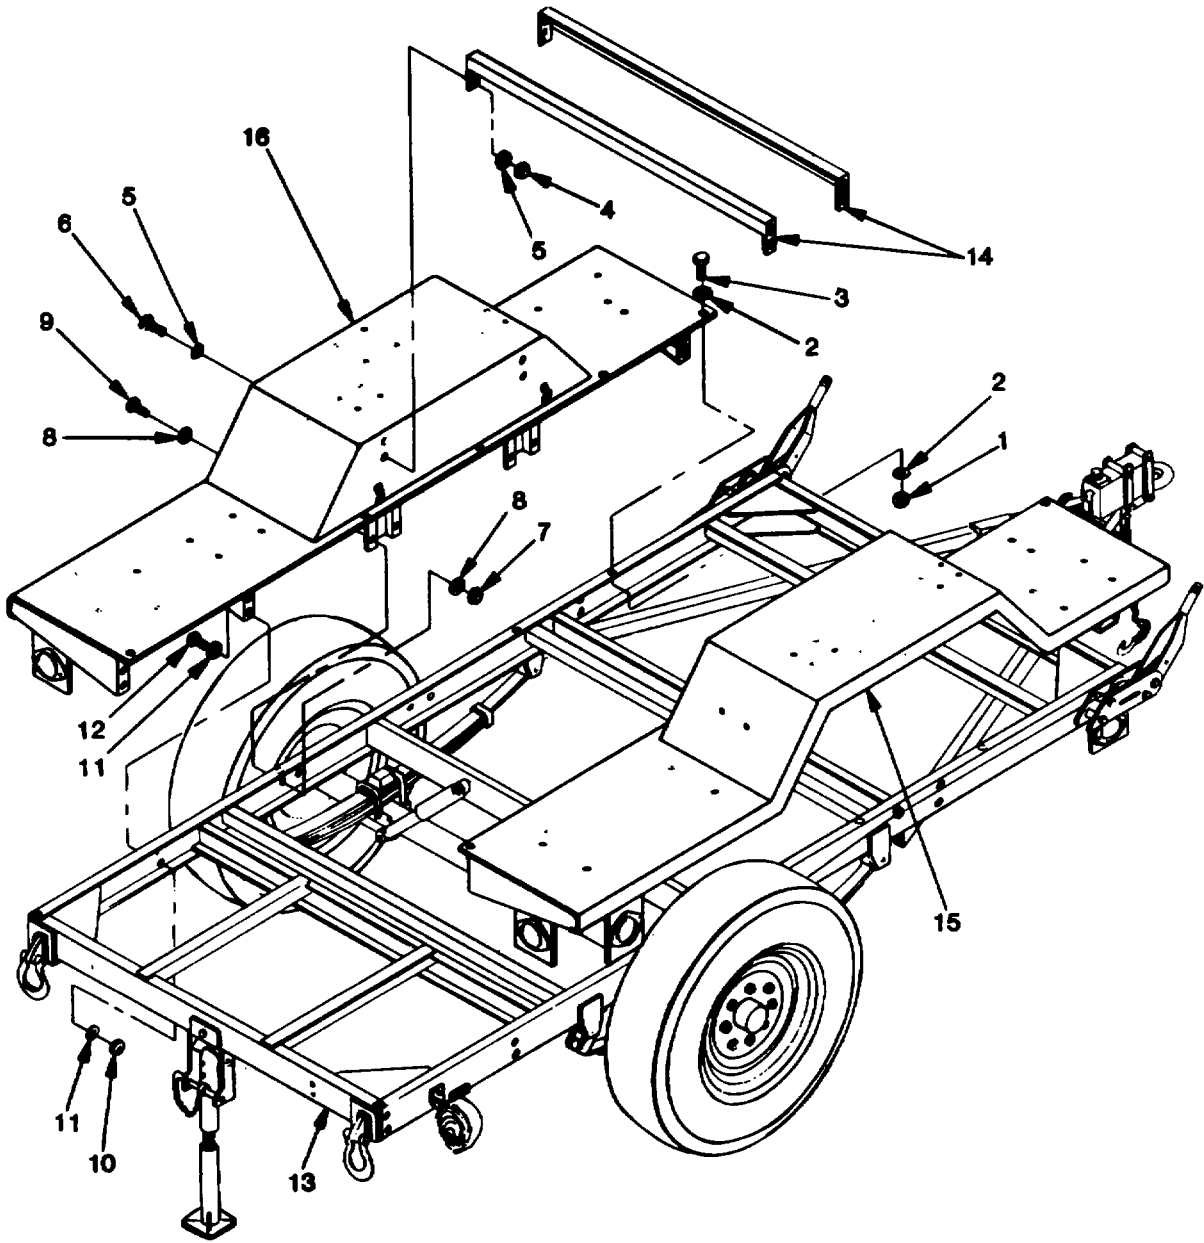

Figure 5-5. Fender/Fender Extension Replacement on AN/MJQ-32.
a. Removal. (See figure 5-5). The fender/fender extension of the modified trailer of the AN/MJQ-32 consists of a single weldment that includes both fender and fender extensions. The following procedures are the same for either the curbside or roadside fender/fender extension.
- (1) Removal (Curbside).
- (h) Remove 5 locknuts (1, figure 5-5), 10 flat washers (2), and 5 screws (3) securing inner edge of curbside fender/fender extension (15) to trailer frame (13).
- (i) Remove four locknuts (4), eight flat washers (5), and four screws (6) securing cross braces (14) to curbside fender/ fender extension.
- (j) Remove four locknuts (7), eight flat washers (8), and four screws (9) securing center portion of curbside fender/fender extension to trailer frame (13).
- (k) Remove 6 locknuts (10), 12 flat washers (11), and 6 screws (12) securing remainder of curbside fender/fender extensions to trailer frame.
(2) Removal (Roadside).
c. Installation.(1) Installation (Curbside).
- (a) Position fender/fender extension (15, figure 5-5) on trailer frame (13). Use support, if necessary.
- (b) Install 5 screws (3), 10 flat washers (2), and 5 locknuts (1) and secure inner edge of fender/fender extension to trailer frame.
- (c) Secure cross braces (14) to fender/fender extension with four screws (6), eight flat washers (5), and four locknuts (4).
- (d) Install four screws (9) and four flat washers (8) through center portion of fender/fender extension and secure with four flat washers (8) and locknuts (7).
- (e) Install six screws (12) and six flat washers (11) through remainder of fender/fender extension and secure with six flat washers (11) and locknuts (10).